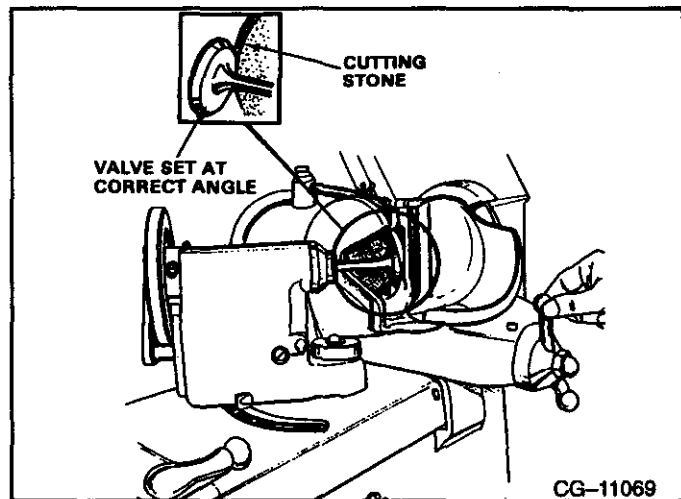

FIGURE 7-36
- c. Deburr the valve guide, after installation. Refer to **FIGURE 7-36**.
- c. Grind the valve face. Remove only the minimum amount of material necessary to true up the valve face. Refer to FIGURE 7-36.